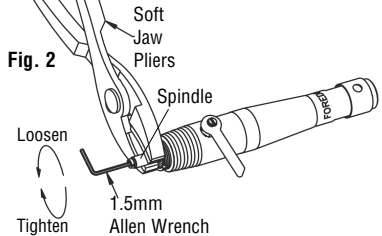

Fig. 2
3. Insert 1.5mm Allen wrench (supplied with new handpiece collet) into the collet lock screw, and grip the exposed spindle using soft jaw pliers. Turn the Allen wrench counterclockwise 1/4 turn to loosen the collet lock screw – Fig. 2.
**For More Information** on Foredom machines, handpieces, or accessories, contact your local dealer. When no local dealer is available, visit our website at [www.foredom.com](http://www.foredom.com). You can write to us at: The Foredom Electric Company, 16 Stony Hill Road, Bethel, CT USA 06801 or call (203) 792-8622.
collet clockwise to tighten, and counterclockwise to loosen – Fig. 6. The collet is adjusted properly when a SLIGHT resistance is felt when moving the bur in and out with the collet release lever in the fully opened position. Next, grip the spindle with the soft jaw pliers, and tighten the collet lock screw securely with the Allen Wrench – Fig. 2.